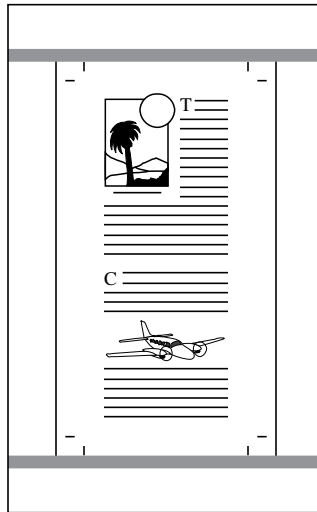

Figure C.4. Maximum page depth may be reduced.
- Maximum image depth may be reduced. See Figure C.4. The gray bands show where the page may be clipped.